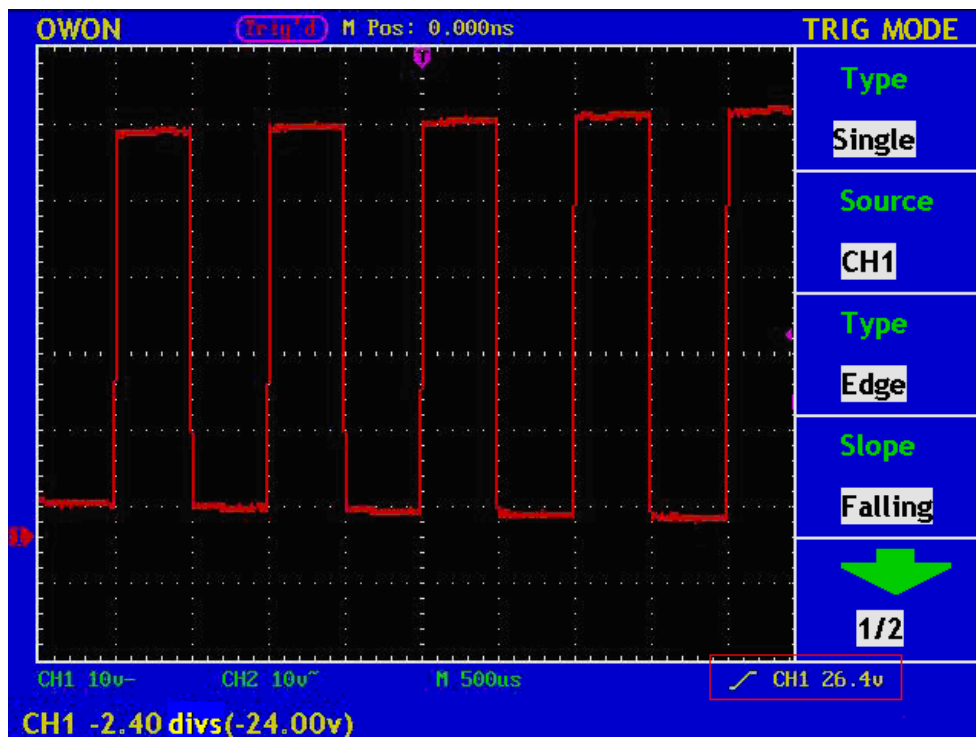

Fig.36 Wave Form Triggered on the Rising Edge
- 7、 Press the **F3** menu selection button choose **DC** for Coupling. The display in the screen is as Fig.36.